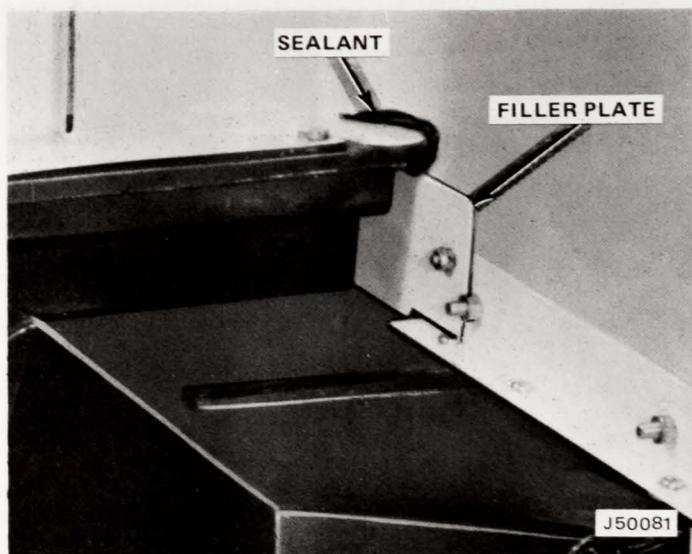

Fig. 2-13 Filler Plates Installed
(1) Slide filler plate into position at each lower corner of rear panel (fig. 2-13). Some installations may require grinding filler plates to fit.
(2) Use slotted hole in each filler plate as guide and drill 13/64-inch hole through reinforcement angle and rear panel. Fasten with truss-head screws and locknuts.